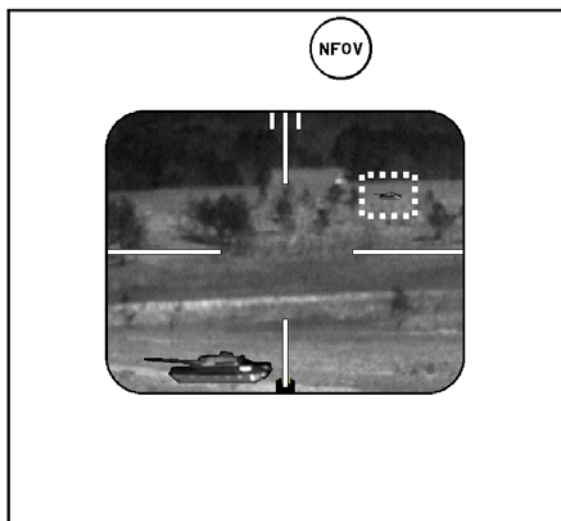

Figure E-34. Effects of range on target details.
- Range to target. The gunner's ability to distinguish a target at maximum range from its background is restricted due to limitations of the NVS magnification, image resolution, and obscuration. When the target moves toward the gunner, the clarity of target details increases as range to the target decreases (Figure E-34).